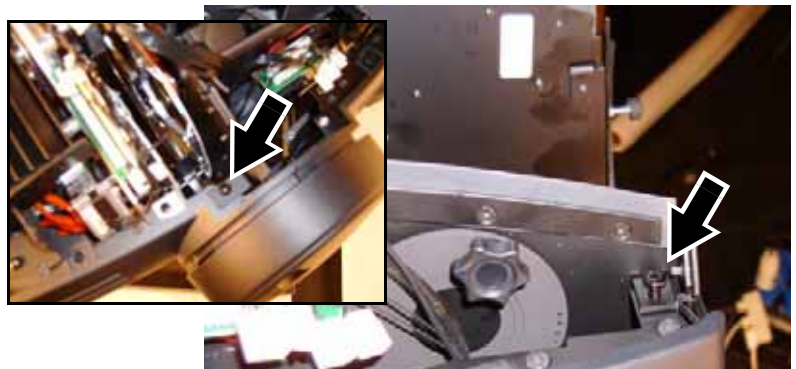

Figure 39
43. See Figure 39. Remove the four zoom/focus module retaining screws (PZ2, P/N 08070404), two on each side of the head. Keep the screws for re-use during re-installation.